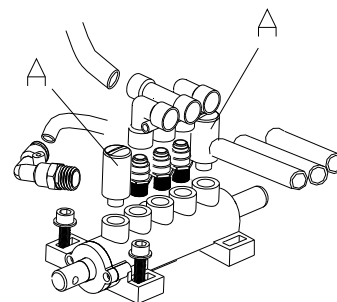

Fig 13
2. Loosen the valve mufflers (A) which belong to Jaws open and close Pedal and Bead Breaker Pedal; (Fig 13)
3. Clean the mufflers with compressed air, please replace it referring to the spare parts list if it is damaged. (Fig 13)